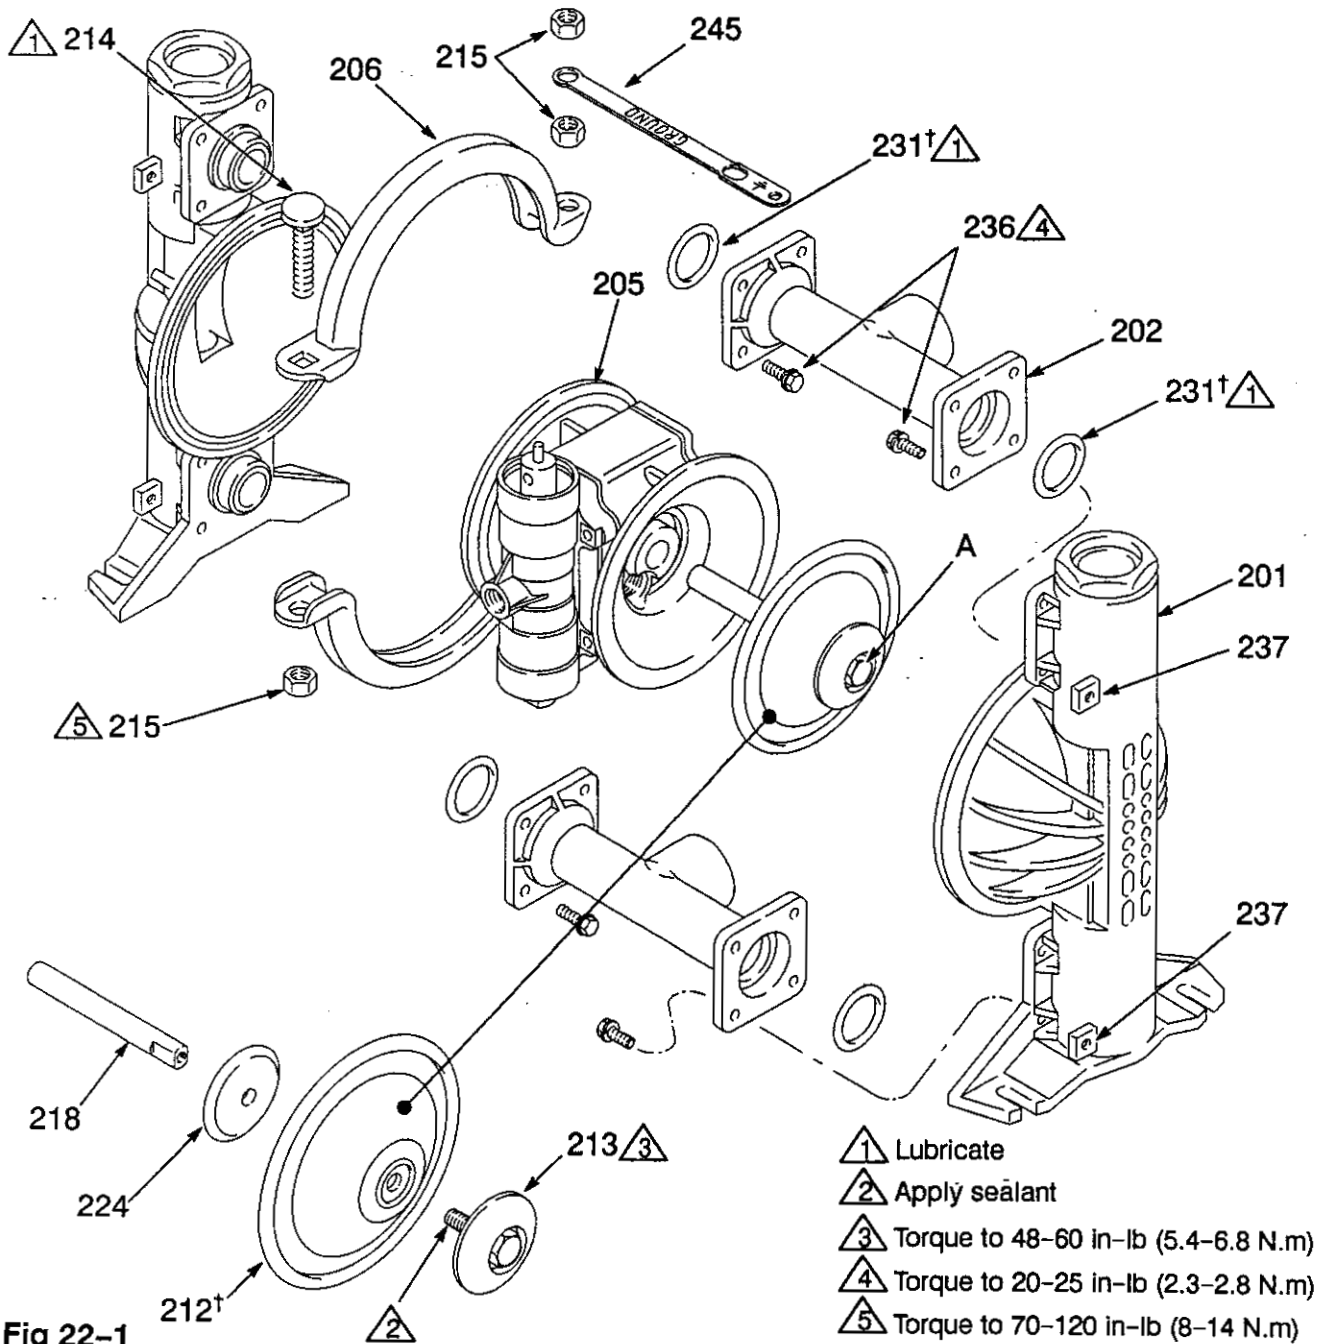

Fig 22-1
8. Continue reassembling the pump until the rod (218) is installed. Follow all notes in Fig 22-1.
10. Torque the diaphragm plates (213) into the diaphragm rod (218) as indicated. Continue reassembling the pump, following the notes in Fig 22-1.
11. Before installing the grounding strip, tighten the screws (214) and nuts (215) on both sides of the clamps (206). Torque as indicated in Fig 22-1. Install the grounding strip (245).
- △3 The words "AIR SIDE" on diaphragm (212) must face into the pump housing
- △4 Flat side of plates (224) must face center of pump